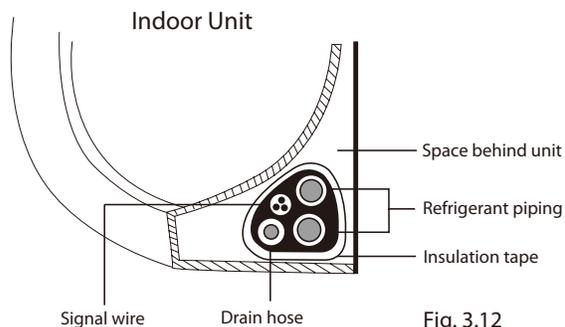

Fig. 3.12
1. Bundle the drain hose, refrigerant pipes, and signal cable according to Fig. 3.12.
3. Using insulation tape, wrap the signal wire, refrigerant pipes, and drain hose tightly together. Double-check that all items are bundled in accordance with Fig. 3.12.